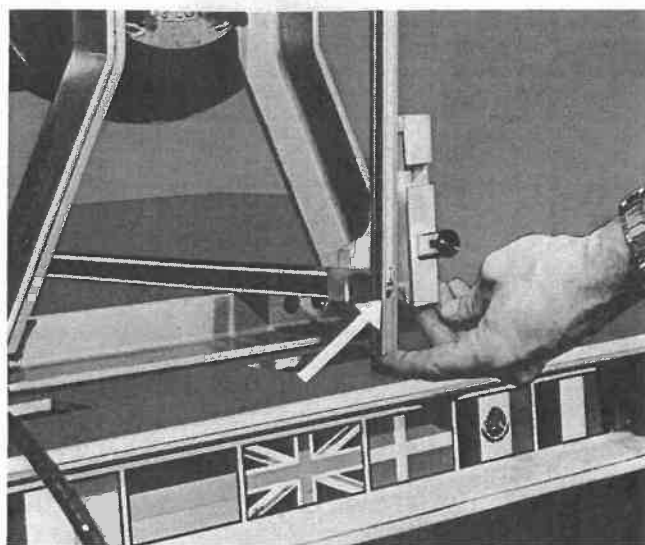

Figure IV-32
- 7) Fasten the lower end of the vertical scales in the scale housings of the lower horizontal bar. The scales are held in the housings by means of a thumb screw that fits in a hole on the scale. (See Figure IV-32 – arrow points out hole in scale.)